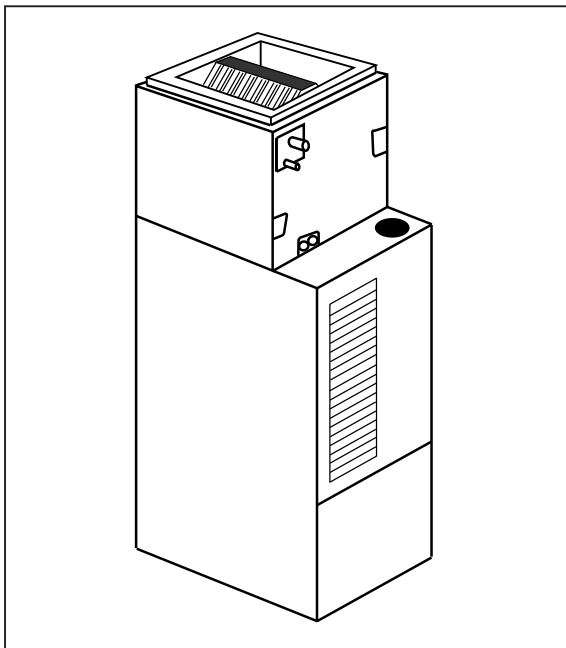

Figure 2.
3. Install the coil and level it as needed to ensure proper condensate drainage. (See Figure 2)